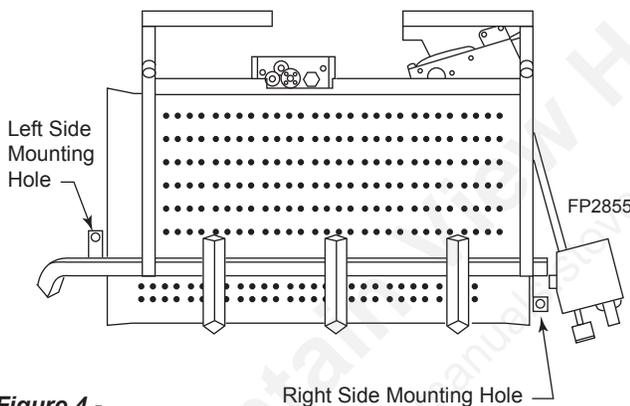

Figure 4 - Securing Heater to Floor of Fireplace/Firebox
2. Refer to *Figure 4* for hole locations. After centering the grate correctly, mark the hole positions on the fireplace/firebox floor. Drill two (2) 5/32" diameter holes approximately 1½" deep.
3. Anchor the grate to the fireplace/firebox floor using the screws provided. *Figure 4*